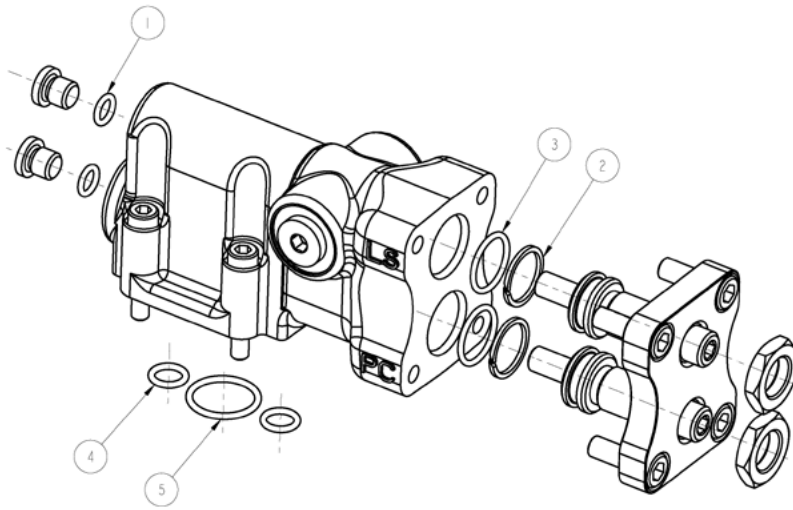

Figure 22
1. Remove the four screws that fix the compensator housing to the end cap (Figure 22, item ①).
2. Dismantle the compensator and remove the three O - rings (Figure 22, item ③).
5. Install three O-rings (Figure 22, ③).
6. Fix the compensator housing to the end cover using four screws (Figure 22, ②), and tighten them with a torque of 31-37 Nm. When tightening, do it in a crisscross pattern and retighten the first screw.